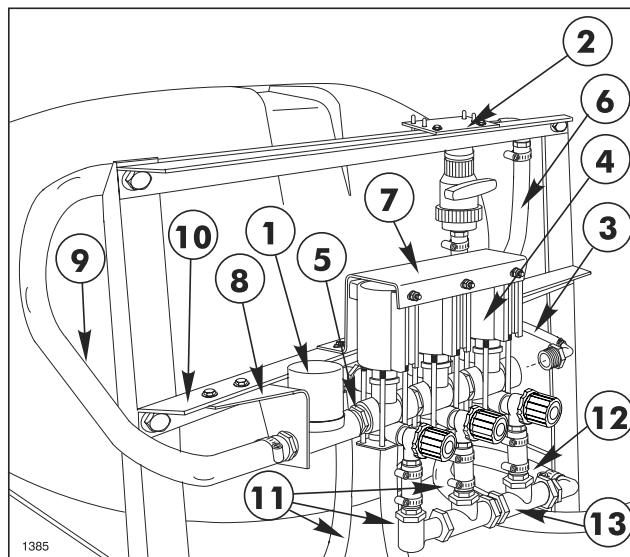

FIG. 16
15. Apply sealer and install the 1" 90 degree hose barb in the rear tank tee (FIG. 16).
2. Install Close Nipple to the Control Valve side of the Solenoid Valve Assembly. Connect Solenoid Assembly to Control Valve by screwing the two together. See FIG. 16.
4. Slide head of M6 x 16 mm hex hd. screw to the top of the mounting groove in each Solenoid Valve. Assemble Solenoid Valve Assembly to the Solenoid Mounting Bracket using three (3) M6 x 16 mm screws just installed. Secure Solenoids with three (3) M6 hex nuts and lockwashers. See FIG. 16.
6. Install Control Valve Bracket to Bottom Cross Support. See FIG. 16. Secure with two (2) flange cap screws and Hex Flange Nuts. (Do not tighten).
9. Install 90° hose barb to Right Hand end of Bypass Manifold Assembly. See FIG 16.
10. Connect the boom feeder hoses to the three hose barbs in the electric solenoids and secure with hose clamps. See FIG. 16.
13. Apply sealer and install the 1" x 1" hose barb into the L.H. end of the tee assembly and a 1" x 3/4" hose barb into the ball valve at the tee assembly. See FIG. 16.
14. Mount the tee assembly and bracket to the upper cross support with (2) 5/16" x 1" hex hd cap screws, flat washers, lockwashers, and nuts (FIG. 16).
15. Install a 1" quick coupler on the end of the 1" x 100" supply hose and secure with a hose clamp. Connect the supply hose to the discharge port on the pump with the quick coupler. Route the hose along the left side of the vehicle under the tank, connect to the hose barb on the right side of the tee assembly and secure with a hose clamp (FIG. 16). Secure hose at cable mounting bracket and rear cross member with tie straps.
17. Connect the 1" x 42" supply hose to the 1" hose barb on the tee assembly and to the 1" hose barb in the control valve. Secure with hose clamps (FIG. 16).
18. Connect the 3/4" x 28" agitator hose to the 3/4" hose barb in the ball valve and connect to the hose barb on the rear of the tank. Secure the hose with hose clamps (FIG. 16).
19. Connect the 1" x 13" overflow hose to the 90° hose barb in the end of the Bypass Manifold assembly and connect to the 90 degree hose barb on the left side of the rear tank tee. Secure with hose clamps (FIG.16).